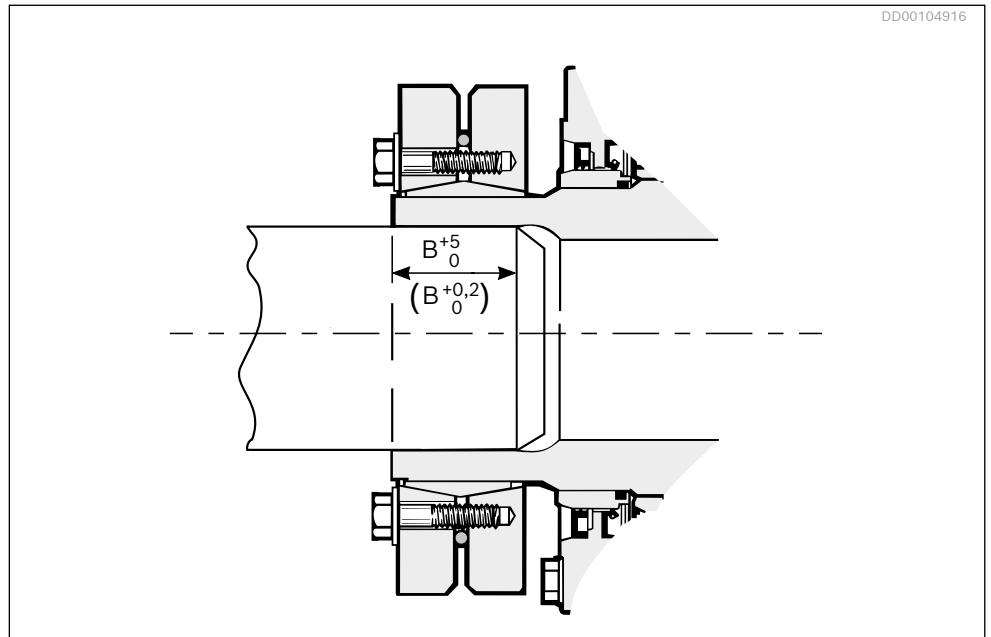
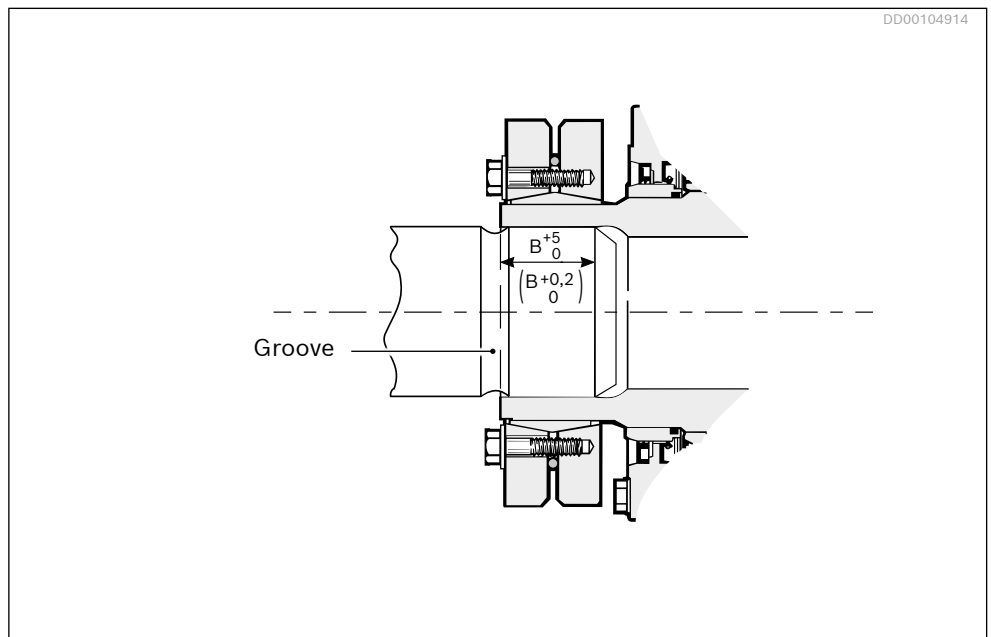

Fig. 34: Driven shaft without stress relieving groove
Fig. 35: Driven shaft with stress relieving groove
The motor can be mounted to the driven shaft with or without a mounting tool, but the use of a mounting tool is recommended since it makes the work easier. Ensure that the full clamping length is used, by for example measuring and marking the driven shaft. This is of particular importance if the driven shaft has a stress relieving groove. See Fig. 34, Fig. 35 and Table 14.
6. Pull the motor onto the shaft by turning the nut on the mounting tool until the length stated in the Table 14, is obtained; see Fig. 34 and Fig. 35.
9. Remount the plug G1" (2).
10. Remount the end cover (1) and tighten the screws. Torque 80 Nm (59 lb-ft).